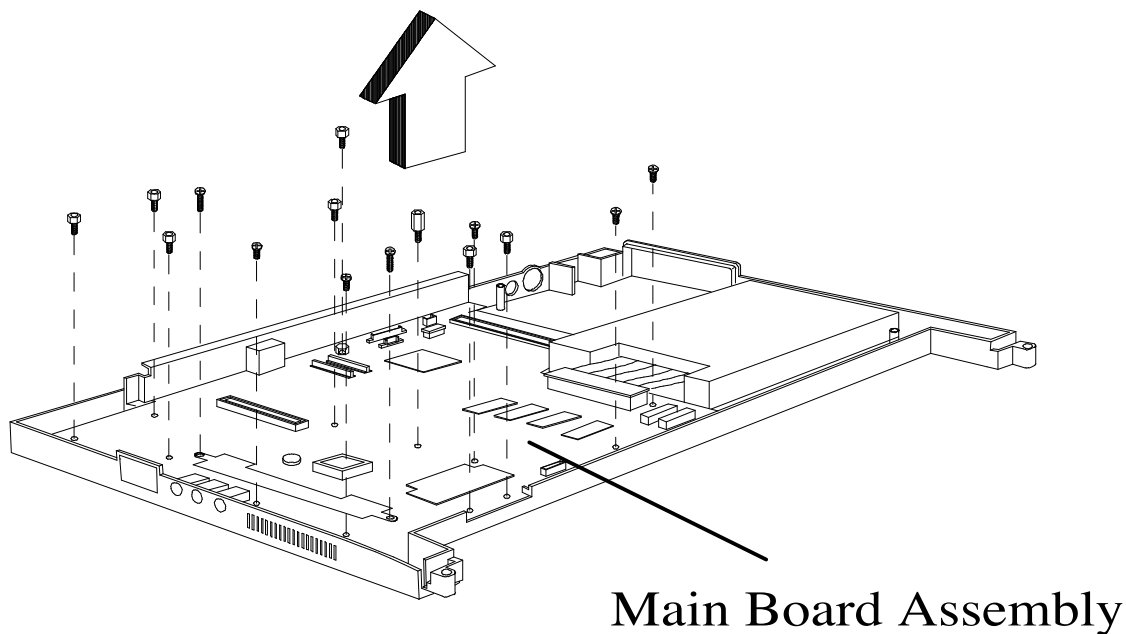

Figure 6-20 Removing/Replacing the Main Board Assembly
6. Remove fourteen screws from the bottom assembly as shown in Figure 6-20.